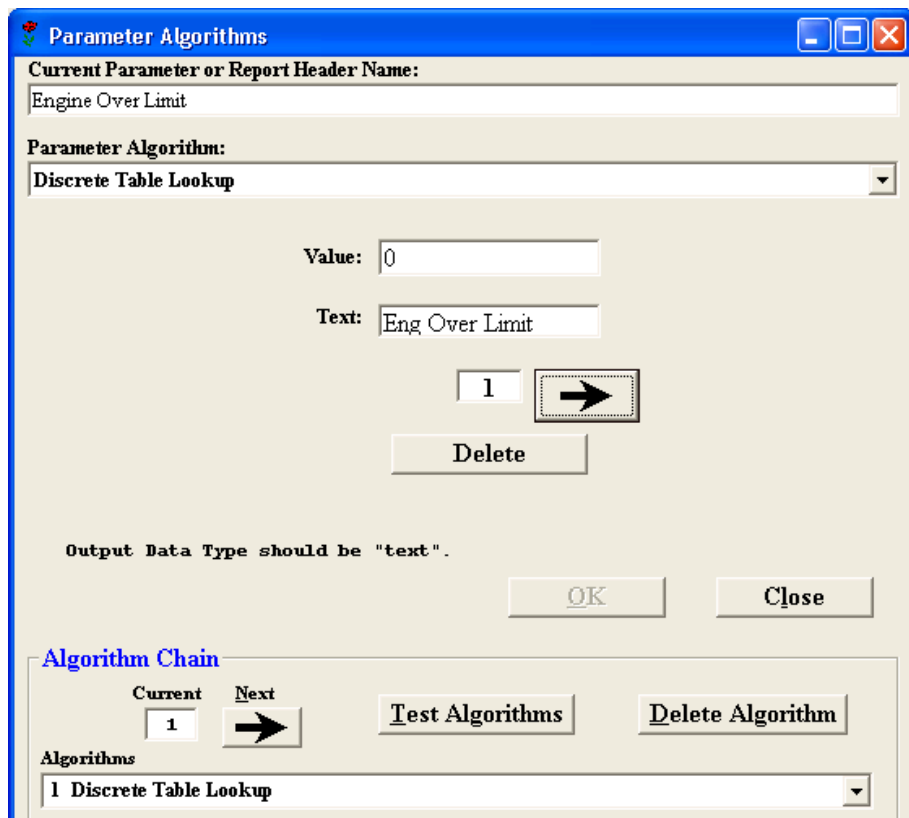

Fig. 3
4. Click "Algorithms". On page "1", item "Value" 0, overwrite item "Text" to *Eng Over Limit* according to the Fig. 3. Click "OK" to confirm.